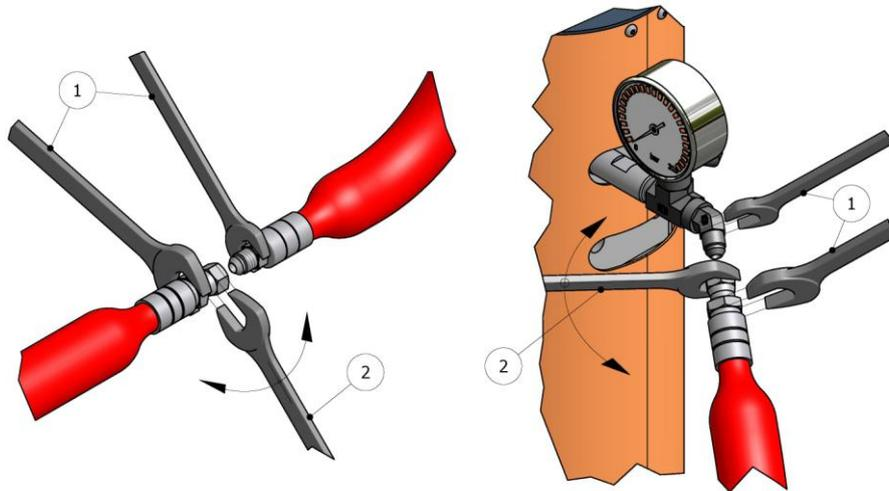

Figure 3. Method of union of the Hoses
**WARNING!** To join the hoses together or to connect them to the heaters or the gun, use two spanners to hold the parts to be joined (1) and a third spanner to tighten or loosen the connecting nut (2) as shown in the illustrations in Figure 3. The connections must be tightened to a torque of 20 Nm